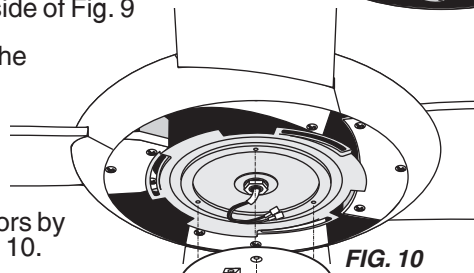

FIG. 10
1. a. If you will **not** be using the LED light fixture, the fixture itself must be removed from the fan. Remove the three screws attaching it to the fan. Disconnect the wires at the connectors by pulling firmly on both sides. See Fig. 10.